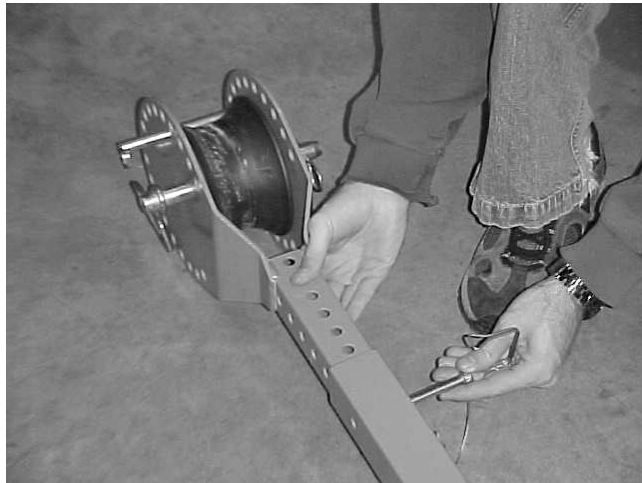

Figure 3
4. Slide Sheave Extension into Square Adapter. Reinstall Lock Pin. (See Figure 3). Sheave Extension can be adjusted to desired height during puller set-up.
CAUTION: Inadequate size extension cords may fail. As the distance from the supply outlet increases, heavier gauge extension cords are required. The accompanying table, Figure 3, is based on limiting the line voltage drop to five volts at 150% of the rated amperes. Inadequate size results in voltage drop, loss of power, and possible motor damage.